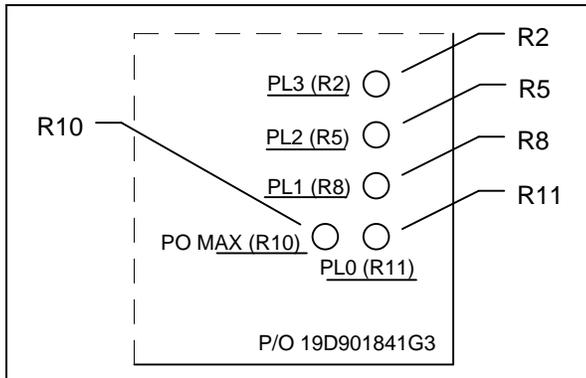

Figure 19 - Power Amplifier Adjustment Locations
2. Connect a RF Directional Wattmeter (item 18) between the PA output and the TX Combiner. Put the Wattmeter into FORWARD mode. Attach a 150 watt RF load (item 21) onto the output of the TX Combiner.
6. Using a non-inductive tuning tool, adjust R11 on the PA Assembly for 100 ±5 watts output power (see Figure 19). Record the final output power.